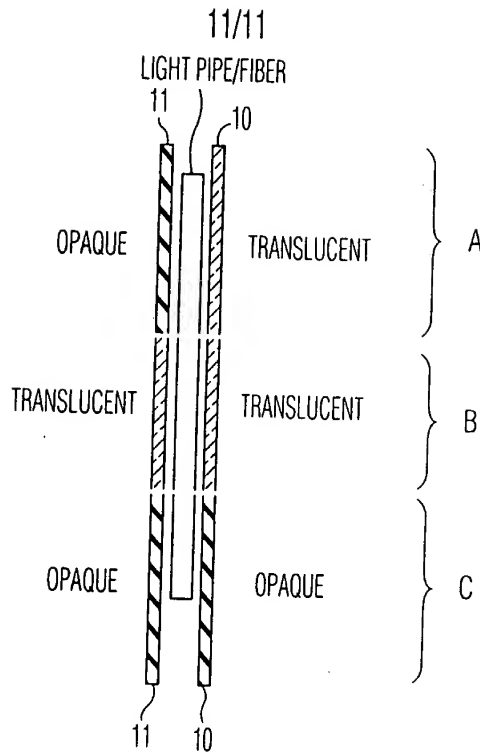

FIG. 13
FIG. 13 is a schematic diagram of a light pipe/fiber assembly. The assembly consists of a central light pipe/fiber (11) surrounded by an opaque layer (10). The assembly is divided into three regions: A, B, and C. Region A is the top section, Region B is the middle section, and Region C is the bottom section. The light pipe/fiber (11) is shown as a central core, and the opaque layer (10) is shown as a surrounding shell. The regions A, B, and C are defined by the arrangement of the opaque and translucent layers.